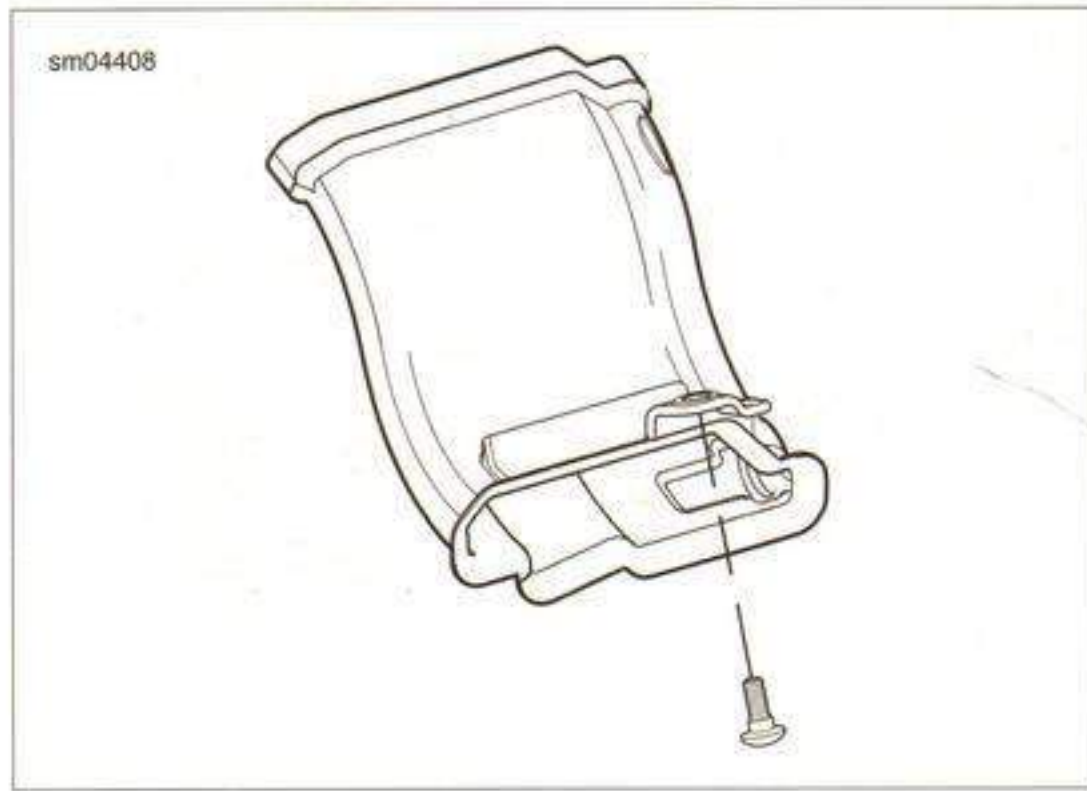

Figure 4-1. Ram Air Intake Snorkel
2. See Figure 4-1. Remove the fastener and the snorkel.